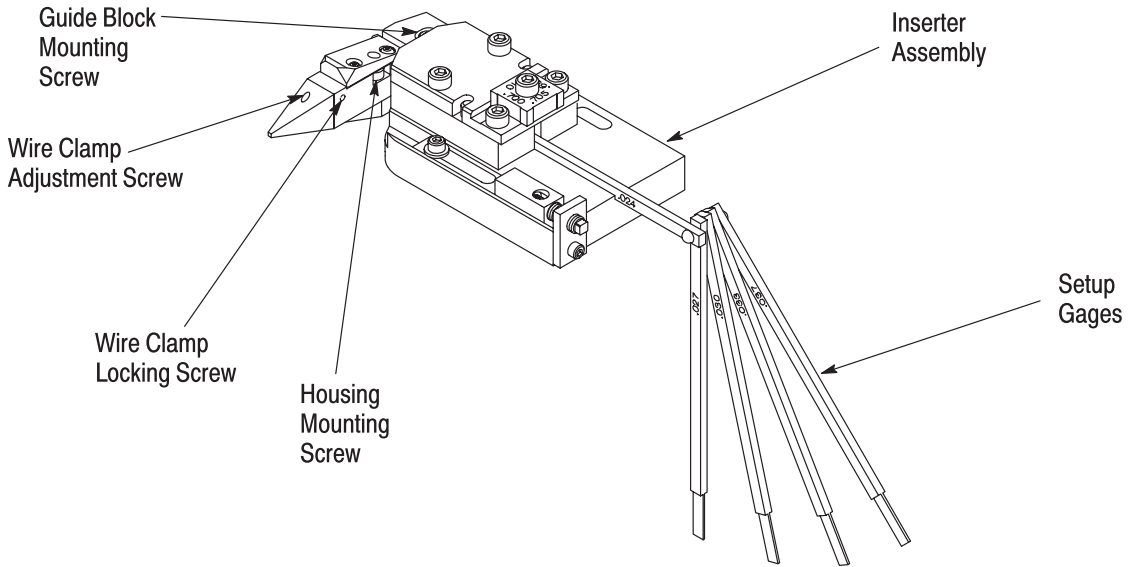

Figure 6
5. Locate the setup gage that is the same size as, or that is one size larger than, the measured wire. Insert the setup gage into the inserter assembly until the gage bottoms against the guide block. Refer to Figure 6.
**D. Wire Clamp Force** (Figure 6)